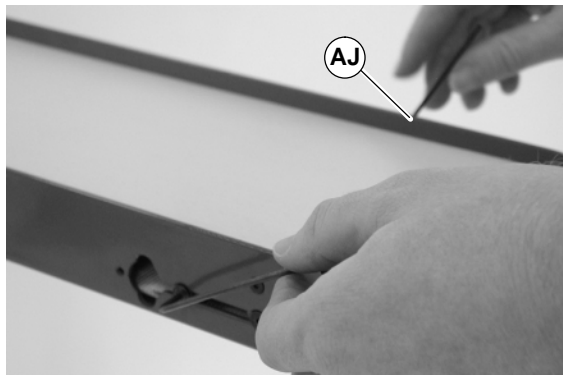
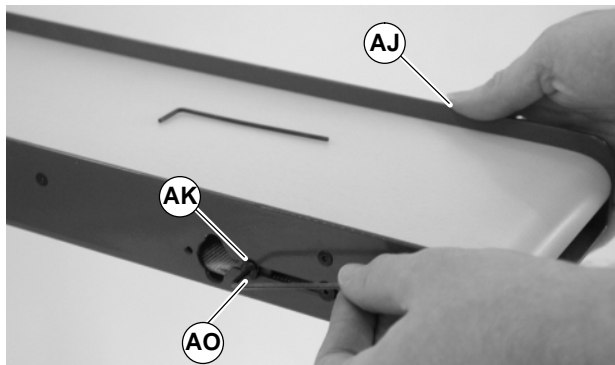

Figure 18
Figure 19
- Using two (2) hex key wrenches, loosen but do not remove screw (AJ of Figure 18). Back the screw out approximately 3/16".
- Push on loose screw (AJ of Figure 18) to engage shaft flats with conveyor countersink holes (AO) on slot. Loosen other screw (AK of Figure 19).